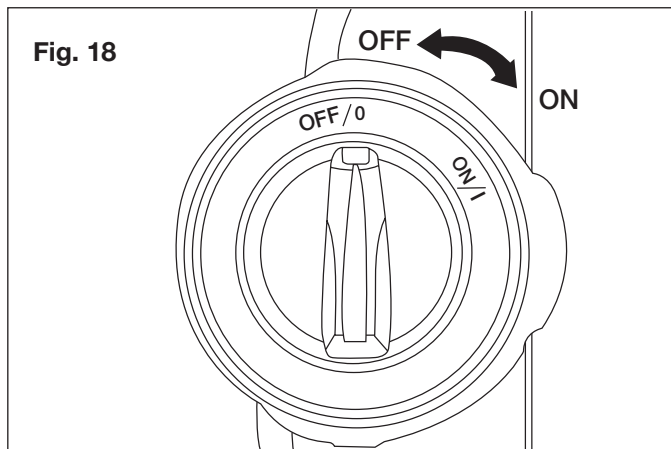

Fig. 18
14. Make sure the motor switch is pushed to the OFF (0) position before plugging the unit into the power outlet (Fig. 18).